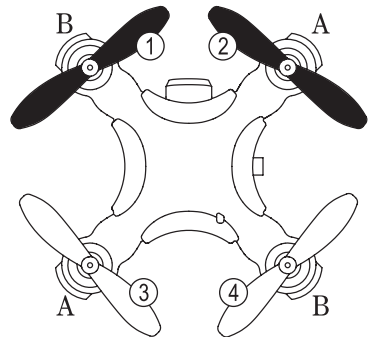

Figure 18
The front rotors (figure 18, items 1 and 2) must have black rotors. Rotor 1 turns clockwise, rotor 2 turns counter clockwise.
The rear rotors (figure 18, items 3 and 4) must have white rotors. Rotor 3 turns counter clockwise, rotor 4 turns clockwise.